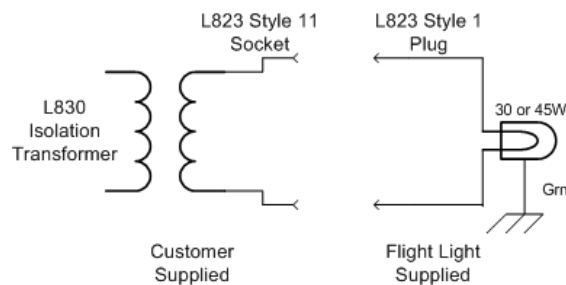

Figure 2 - Airfield Electrical Connection
4. Connect the isolation transformer per Figure 2.